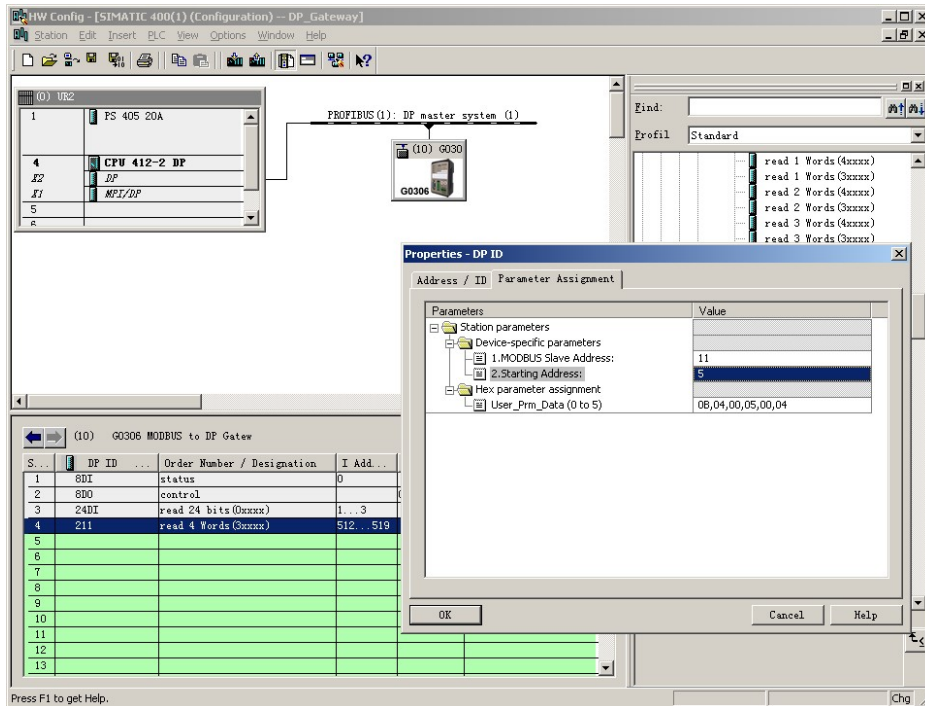

Figure 20 Configure "read 4 Words(3xxxx)" module user parameters
b) Configure the user parameters of the "read 4 Words(3xxxx)" module, as shown in Figure 20:
"1.MODBUS Slave Address:" ⇒ Type in the MODBUS slave address 11, as shown in Figure 20
"2.Starting Address:" ⇒ Type in the starting address 30006 of the register 3xxxx to be read, and set the address to 5 "OK", as shown in Figure 20.